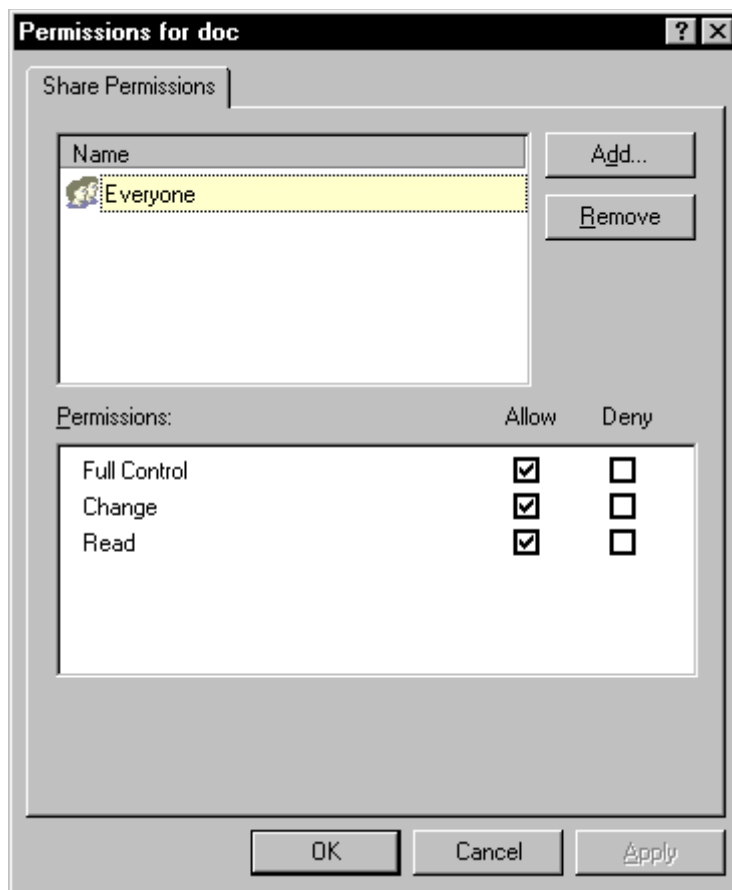

Figure 13-3
5. Select **Everyone**, and then click **Remove**. (Figure 13-3).